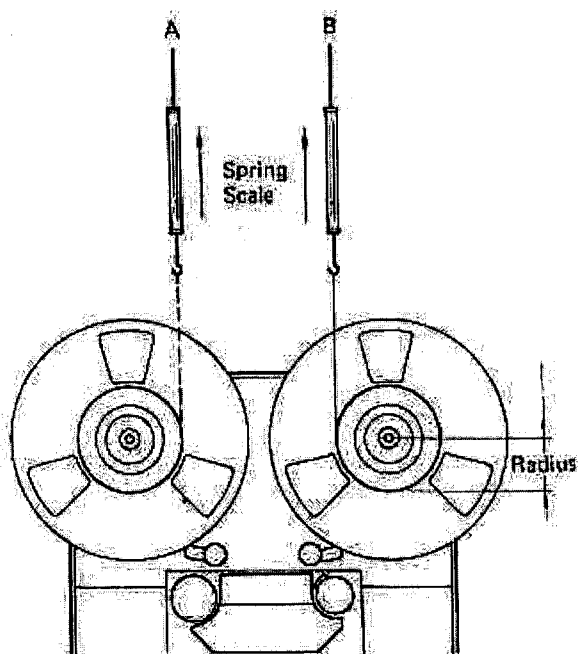

Fig. 9-4-2. Brake Torque Measurement
1. Mount an empty 10-1/2" reel onto either reel table and attach a spring scale to the reel with a string. See Fig. 9-4-2.
3. Follow steps 1 and 2 for each measuring condition; i.e., (A) and (B) in Fig. 9-4-2.